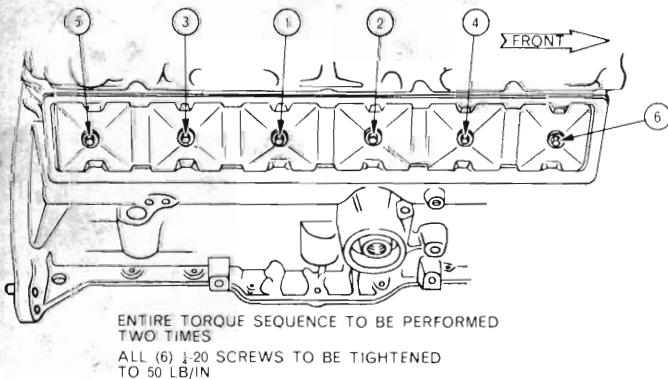

Fig. 10 - Tappet side plate tightening diagram
(Refer Fig. 10).
- (1) Ensure that the gasket surface of the cylinder block is clean.
- (2) Coat both gasket surfaces with the red Chrysler Parts Gasket Sealer then install the composition gasket on the side cover.
- (3) Position the side plate and gasket onto the block and install the 6 retaining screws.
- (4) Tighten the screws evenly to 50 lbs. in. torque, commencing at the centre and progressing outwards (refer to Fig. 10).
- (5) Re-install the ignition coil.